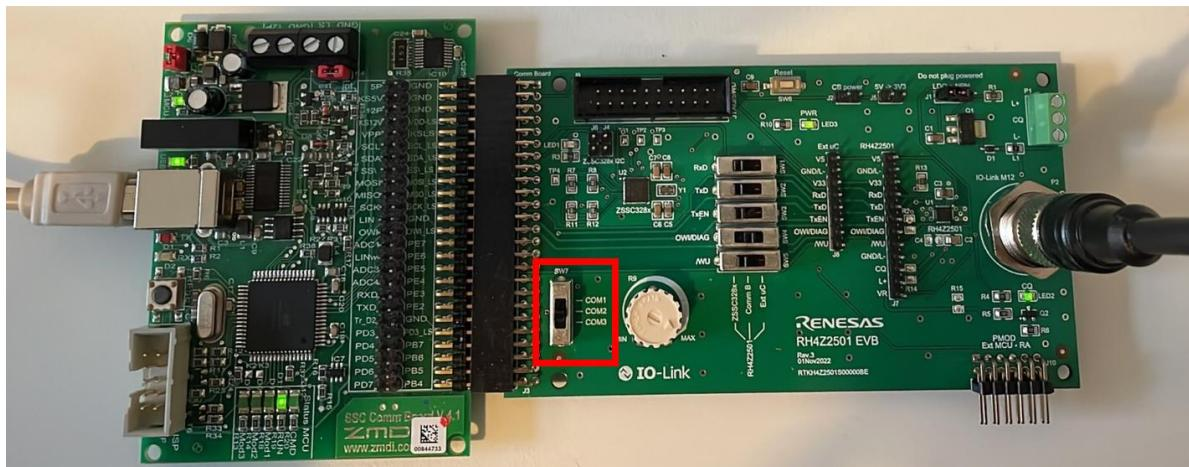

Figure 9. Selecting COM Mode by SW7
- Set the Switch 7 to the selected COM mode, see Figure 9.